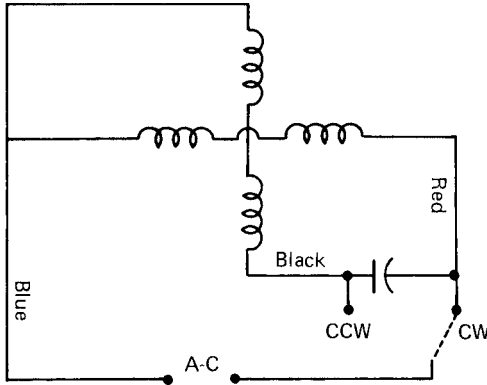
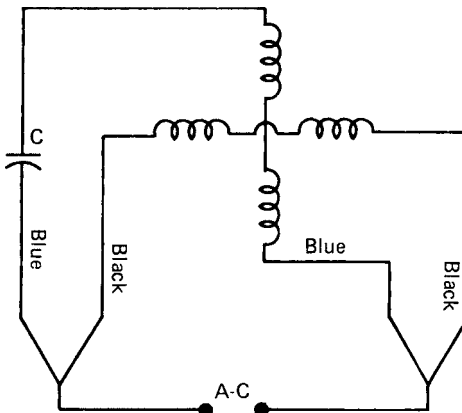

Figure 12-20 Permanent split-capacitor three-lead schematic.
Figure 12-21 Permanent split-capacitor four-lead schematic.
**Reversibility.** The PSC motor can be reversed if it has three wires leading from the case (see Fig. 12-20). To reverse, simply connect either side of the capacitor to the line. However, with compressors it is best to leave them as is. They have been designed without the possibility of reversing in most cases. To reverse the four-wire type motor, transpose the black leads as shown in Fig. 12-21.